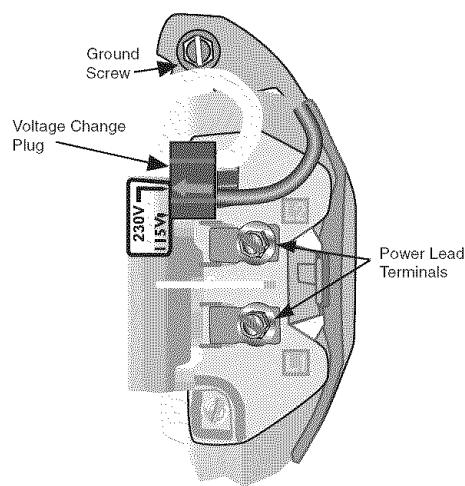

Figure 4: Voltage set to 230 volts, Plug Type
Step 7. Connect current carrying conductors to terminals L1 and L2 under motor canopy. When replacing motor, check wiring diagram on motor nameplate against Figures 4 and 5. If the motor wiring diagram does not match either diagram, follow the diagram on the motor.
IMPORTANT: 115/230 Volt single phase models are shipped from factory with motor wired for 230 volts. If power supply is 115 volts, remove motor canopy and reconnect motor as shown in Figures 4 and 5. Do not try to run motor as received on 115 volt current.